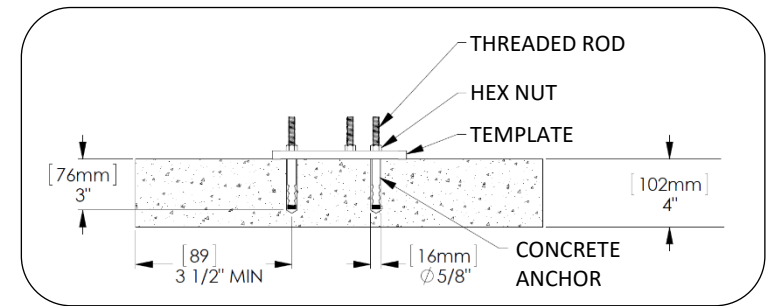

FIG. 2 – HOLE SIZE FOR SURFACE MOUNT BOLLARD
3. Drill holes according to Fig. 2.